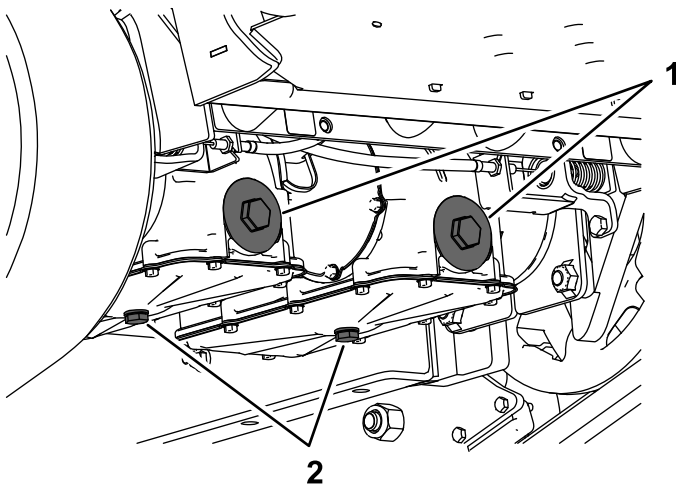

**Figure 49**
4. Remove the 6 bolts (2 rear, 4 side) from the skid plate and remove the skid plate (Figure 49).
15. Install the skid plate (Figure 49).